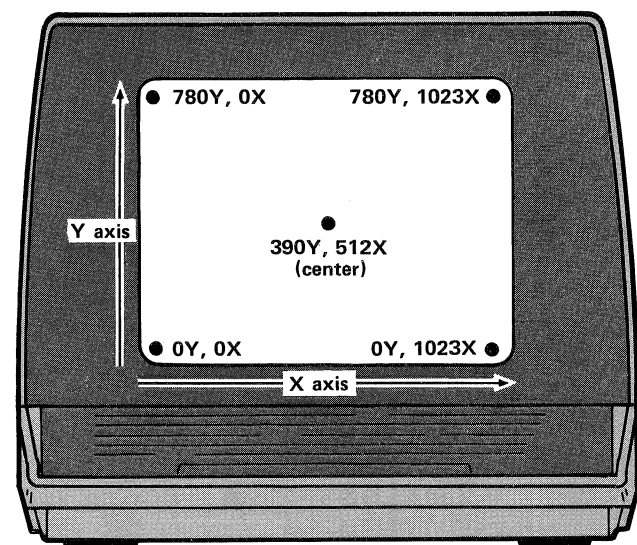

Fig. 2-3. Graphic Display Positions.
The Graphic Plot mode provides the user with up to 1,048,576 unique addressable points which can be addressed from the computer for plotting of graphic information. Of these, 798,720 are capable of being displayed in the quality display area of the screen. The remainder of the addresses can be stored but will not be displayed (some may be displayed outside the quality display area). The 1,048,576 address points are obtained by using 1024 addresses for the vertical (Y) axis (780 of which are displayable) and 1024 addresses for the horizontal (X) axis. The display area is shown in Fig. 2-3.